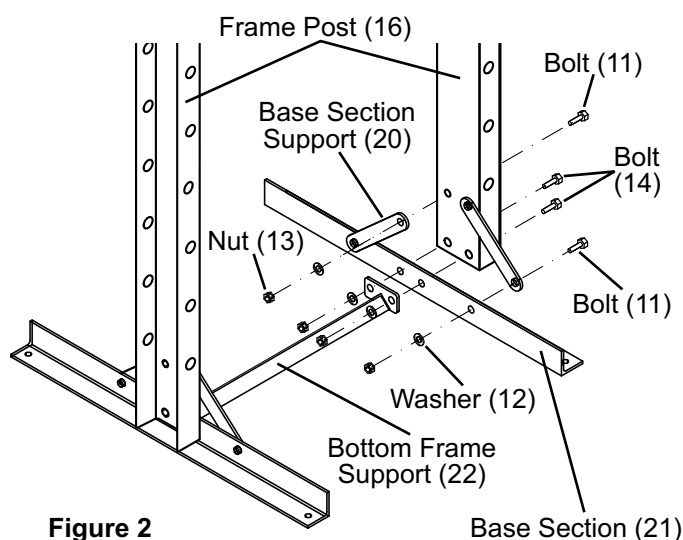
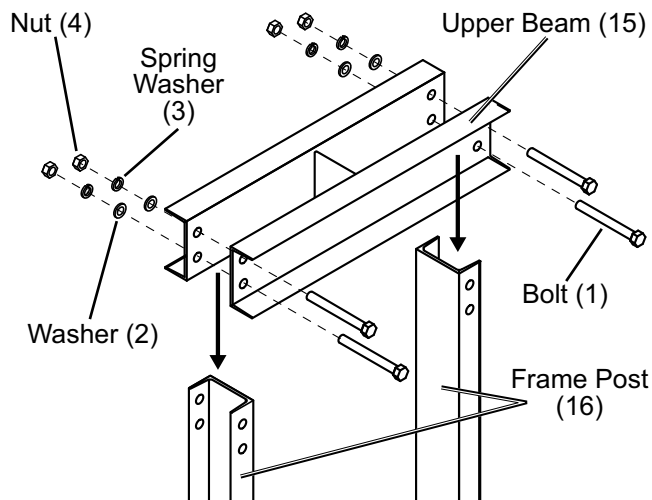

Figure 2
Figure 4
- Slide each Base Section (21) under the Frame Posts (16), and place the Bottom Frame Support (22) between them. Line up the bolt holes and insert the Bolts (14) through the Frame Posts, Base Sections, and Bottom Frame Support, then secure in place with the Washers (12) and Nuts (13).
- Attach the Base Section Supports (20) to the Frame Posts and Base Sections using the Bolts (11), Washers (12), and Nuts (13). See Figure 2.
**Note:** For set-up, position the Support Pins at least several holes down from the top holes in the Frame Posts so you have room to place the Jack Plate (17). You can re-adjust the placement of the Press Apron after assembly.
6. **Align** the holes on the Upper Beam (15) with the holes in the top of the Frame Posts (16) and secure in place with the Bolts (1), Washers (2), Spring Washers (3), and Nuts (4). Align the Upper Beam with the bottle jack bracket on the bottom. Check that the assembly is square, then finish tightening bolts. See Figure 4.